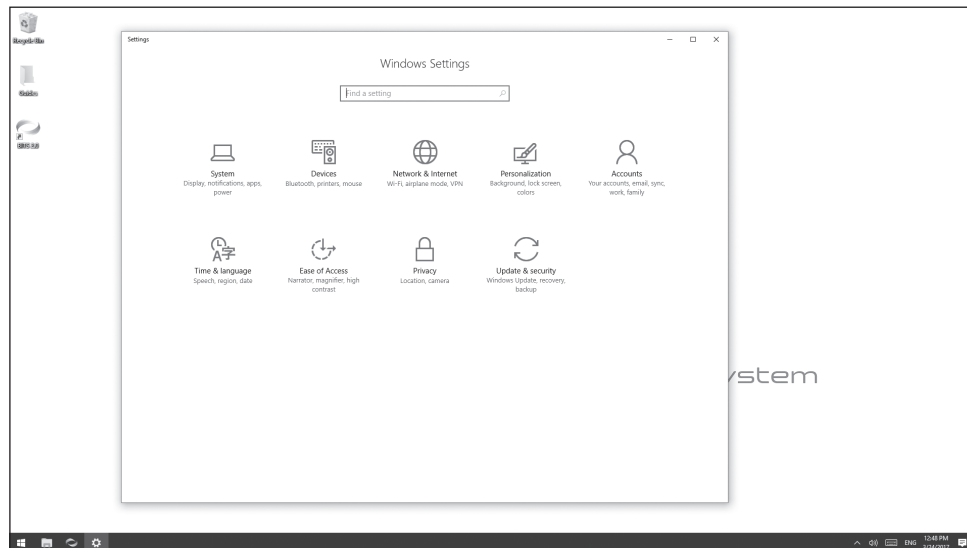

Figure 33: Windows Settings Menu
6. From the Windows Settings menu, select the Time & Language settings icon. See Figure 33.